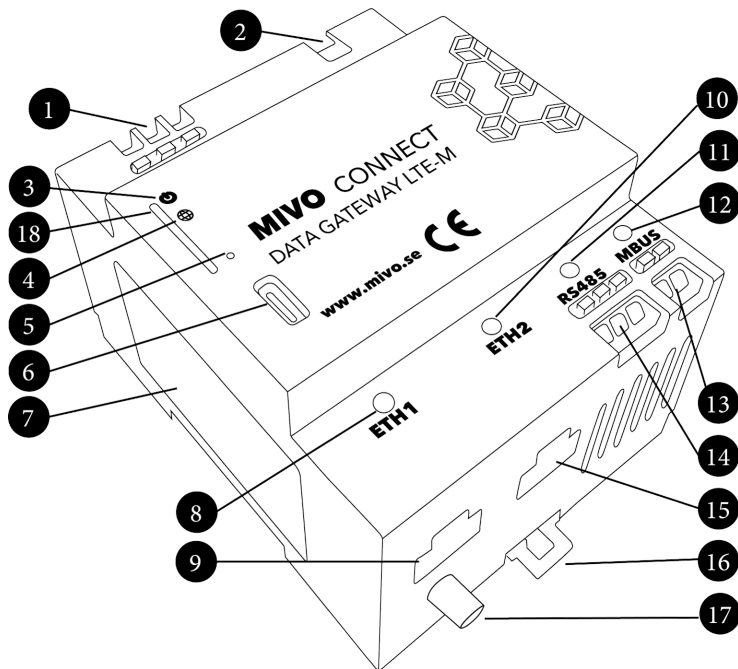

Figure 2 Product description
The product must be mounted vertically with terminal connector 1 and 2 in figure 2 facing upwards, no other rotation is allowed.
2. Tilt the product down until the bottom latch snaps in place, if necessary use a small screwdriver to pull the latch(item 16 in Figure 2) down.
2. Pull the bottom latch (item 16 in Figure 2) down with a screwdriver and tilt the product upwards.
The device must only be used on 230V 50Hz ac mains protected by a fuse of 16A or less, a fuse of 6A is recommended. Power should be connected to the three power terminals (item 1 in Figure 2) on the top left side of the device. The terminals support cables ranging from 0.75mm² to 1.5mm². A circuit breaker must be installed breaking both Line and Neutral to the device during servicing. Protective Earth must be connected.
This connection is intended for internet connectivity and uses a standard RJ-45 ethernet connector (item 9 in Figure 2) . For heavy industrial use Cat. 5 FTP or better should be used, otherwise Cat. 5 UTP or better is sufficient. If link is found the green LED should light up (item 8 in Figure 2) .
This connection is intended for local connections and uses a standard RJ-45 ethernet connector (item 15 in Figure 2) . By default, this port will work as a router, providing internet connectivity for all devices connected to this port. For heavy industrial use Cat. 5 FTP or better should be used, otherwise Cat5 UTP or better is sufficient. If link is found the green LED should light up (item 10 in Figure 2).